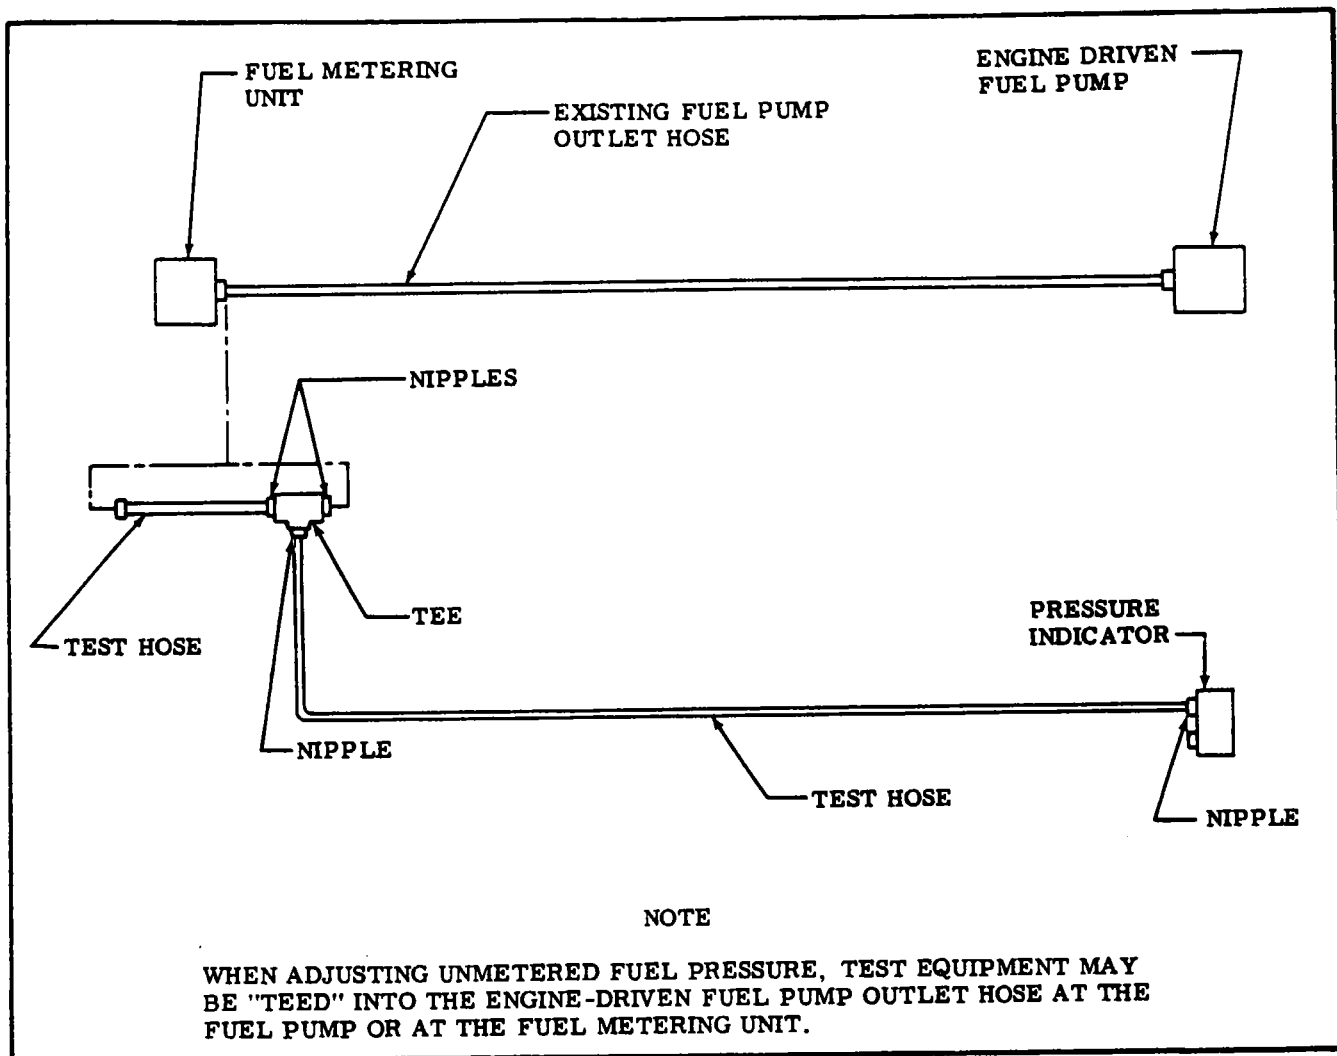

Figure 12-7. Fuel Injection Pump Adjustment Test Harness
- b. Disconnect the engine-driven fuel pump outlet fitting or the fuel metering unit inlet fitting and "tee" the test gage into the fuel injection system as illustrated in figure 12-7.
e. Adjust engine idle speed to 600 rpm and check test gage for 9-11 PSI. Refer to figure 12-7 for idle mixture adjustment.